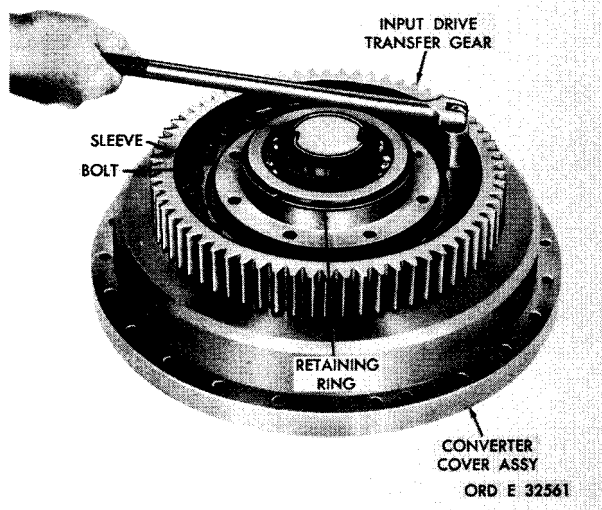
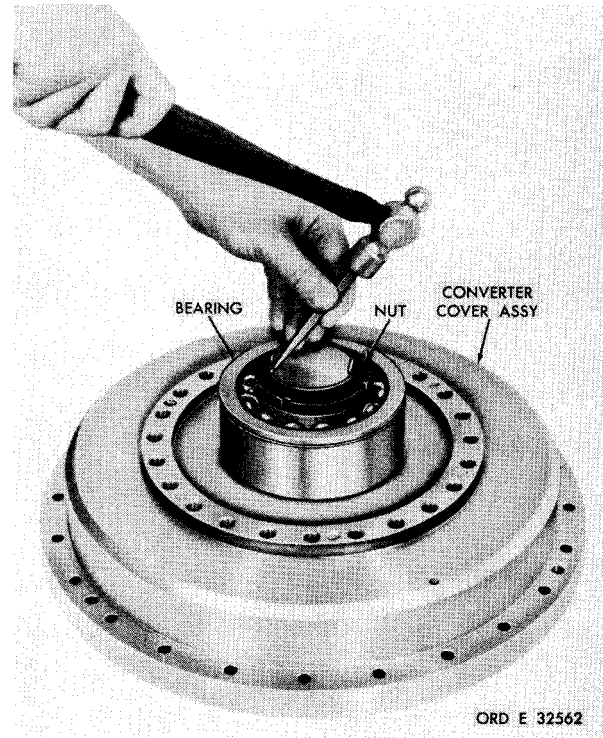

Figure 142. Removing (or installing) input drive transfer gear
Figure 143. Straightening lip of torque converter lock nut
(1) Using a 5/8-inch wrench, remove 24 self-locking bolts retaining the input drive transfer gear (fig. 142). Remove the gear.
(2) Remove the retaining ring from the torque converter support bearing.
(3) Remove the bearing support sleeve.
(4) Using a hammer and punch, bend the lip of the converter lock nut away from the notches in the hub of the torque converter cover (fig. 143).
(3) Install bearing support sleeve 104. Install the retaining ring on the bearing.
(4) Install the input drive transfer gear and, using a 5/8-inch wrench, secure it with twenty-four 7/16-20 x 1 self-locking bolts (fig. 142). Tighten the bolts to 64-77 pound-foot torque.